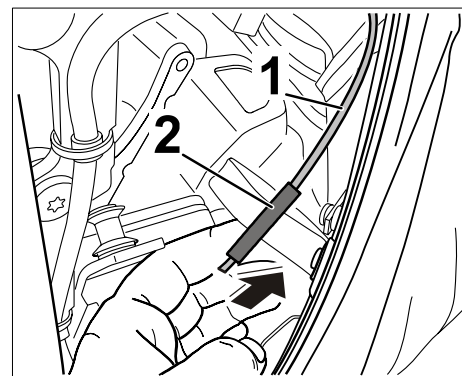

Figure 3
- 2.3 Pull shrink-fit hose $\Rightarrow$ Figure 3 **-Pos. 2-** up over the tension rope you have just cut $\Rightarrow$ Figure 3 **-Pos. 1-** ($\Rightarrow$ Figure 3 **-Arrow-**).